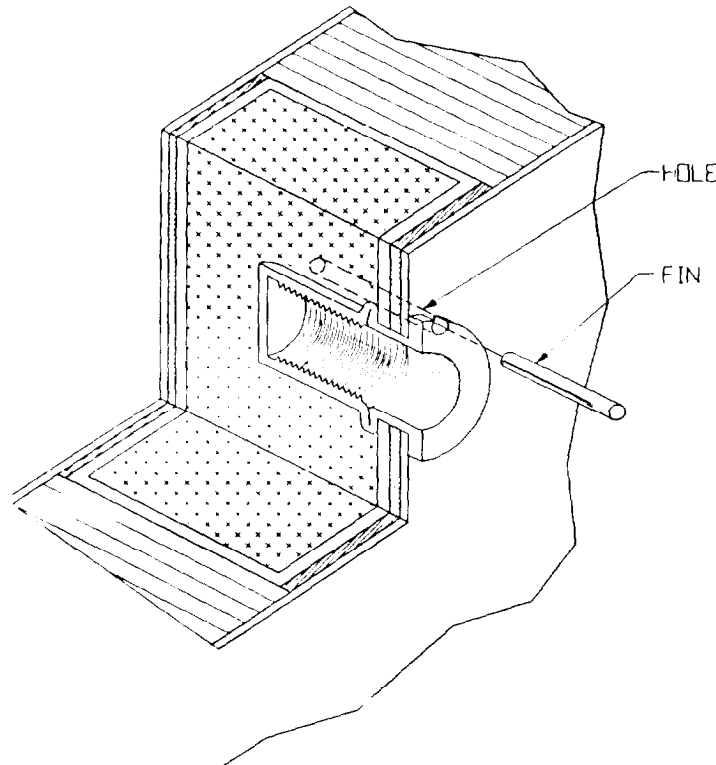

Figure 4-9. Spinning Rivnut
(3) Repair. (figure 4-9) When excessive torque is applied on screws attached on rivnuts, it may cause a rivnut to spin (turn). Table 4-4 provides the maximum torque requirement for hardware to prevent rivnut turning. To correct a spinning rivnut, proceed as follows: